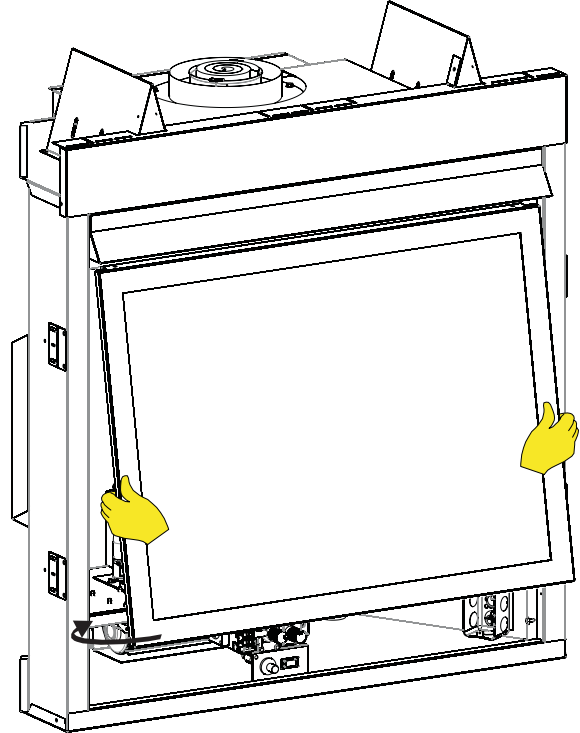

Figure 90
2. Gently lower the glass frame into place. **See Figure 90** for proper glass frame placement.